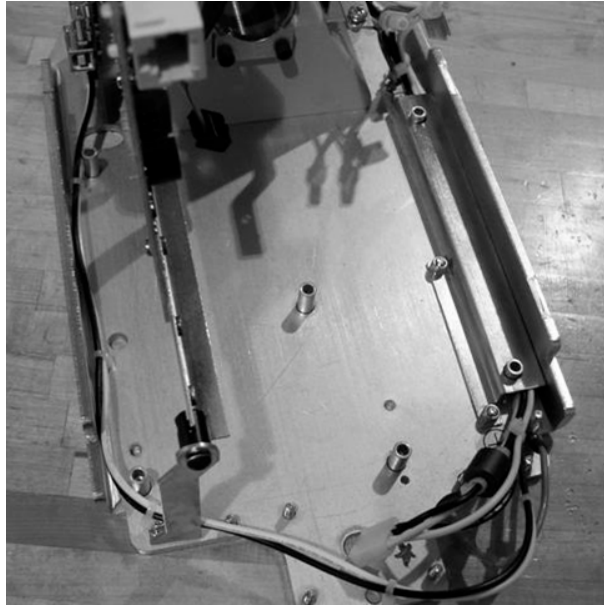

Figure 13: Routing the Power Switch Harness
17. Route the remaining portion of the Power Switch Harness as shown and plug it into the USB Hub as shown on Figure 13.